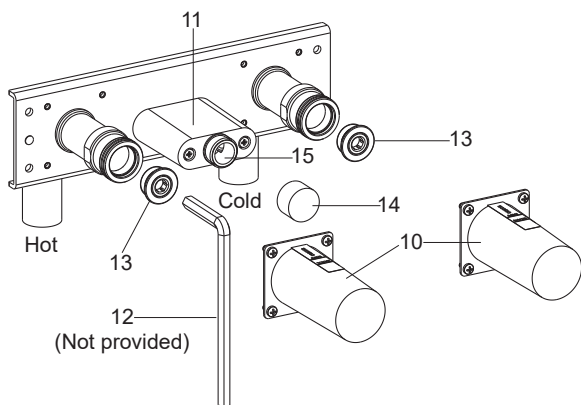

Fig. 3
As **Fig. 3** shown, uninstall the protectors(10) with screwdriver(not provided). Remove the plugs(13) with 8mm hex wrench (12, not provided). Flush water supply pipes for about one minute to remove any debris. Reinstall the plugs. Remove the protector cap(14) from the protector(11), and connect the connection(15) with one waterpipe(not provided). Insert one G1/2" plug(not provided) into the G1/2" female ell(8).